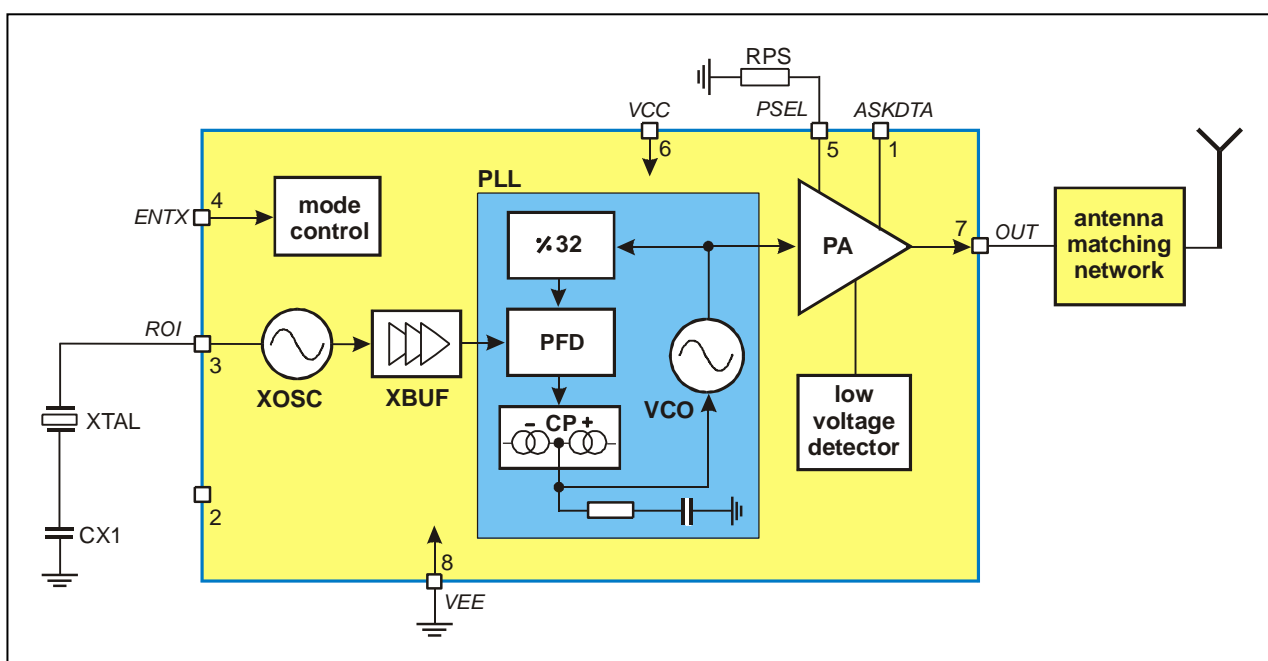

Fig. 1: Block diagram with external components
As depicted in Fig.1, the TH72002 transmitter consists of a fully integrated voltage-controlled oscillator (VCO), a divide-by-32 divider (div32), a phase-frequency detector (PFD) and a charge pump (CP). An internal loop filter determines the dynamic behavior of the PLL and suppresses reference spurious signals. A Colpitts crystal oscillator (XOSC) is used as the reference oscillator of a phase-locked loop (PLL) synthesizer. The VCO's output signal feeds the power amplifier (PA). The RF signal power  $P_{out}$  can be adjusted in four steps from  $P_{out} = -12$  dBm to +11 dBm, either by changing the value of resistor RPS or by varying the voltage  $V_{PS}$  at pin PSEL. The open-collector output (OUT) can be used either to directly drive a loop antenna or to be matched to a 50Ohm load. Bandgap biasing ensures stable operation of the IC at a power supply range of 1.95 V to 5.5 V.